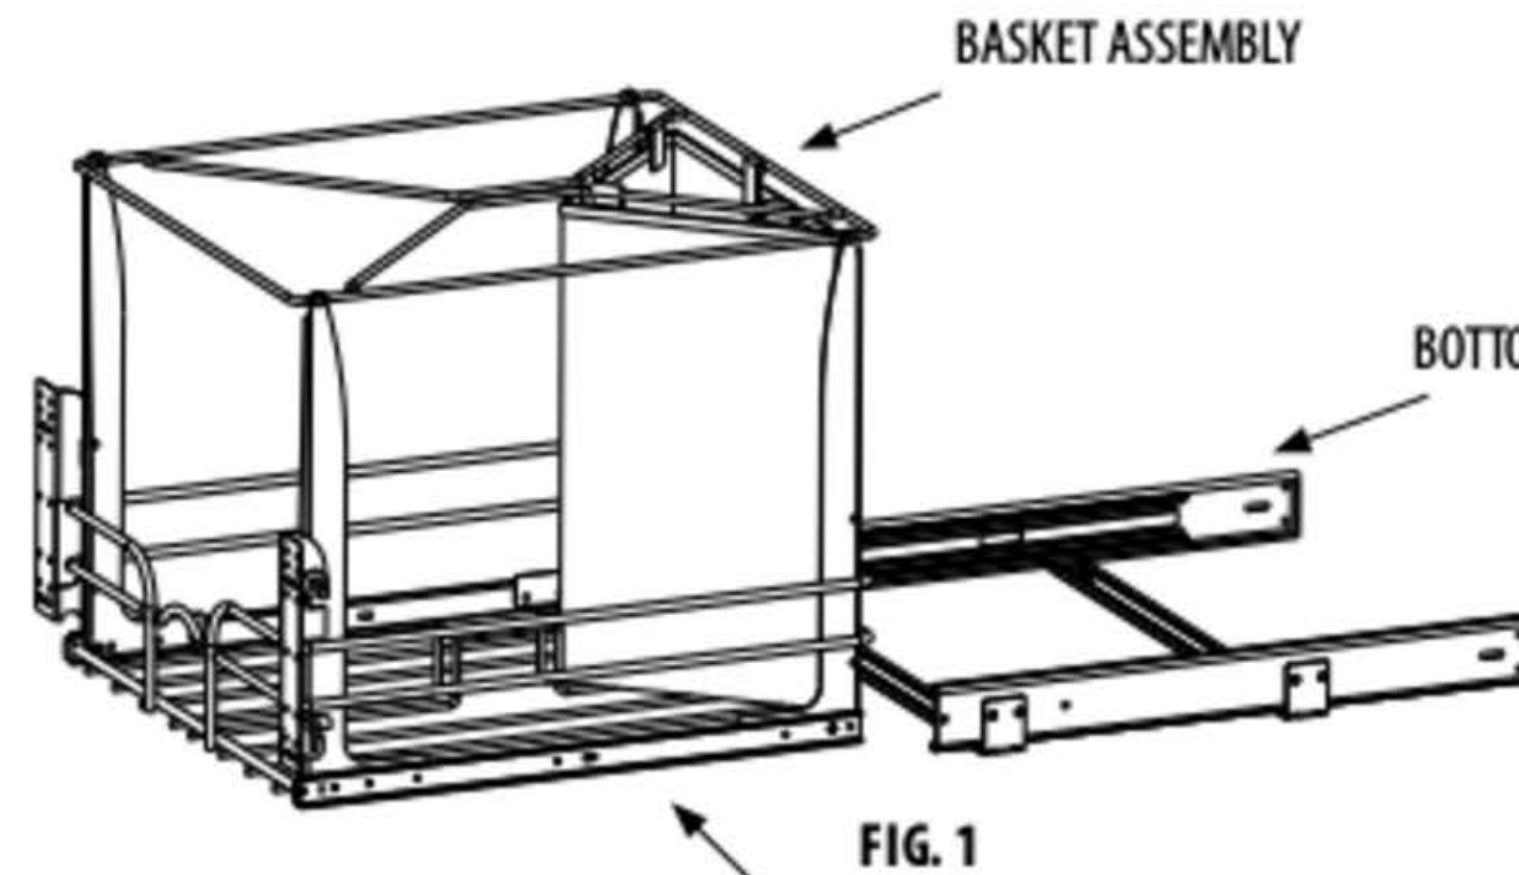

FIG. 1
STEP 1) DISENGAGE WIRE BASKET ASSEMBLY BY DEPRESSING THE TRIGGER AND PULLING SLIDE AWAY FROM THE BASKET. (FIG. 1)